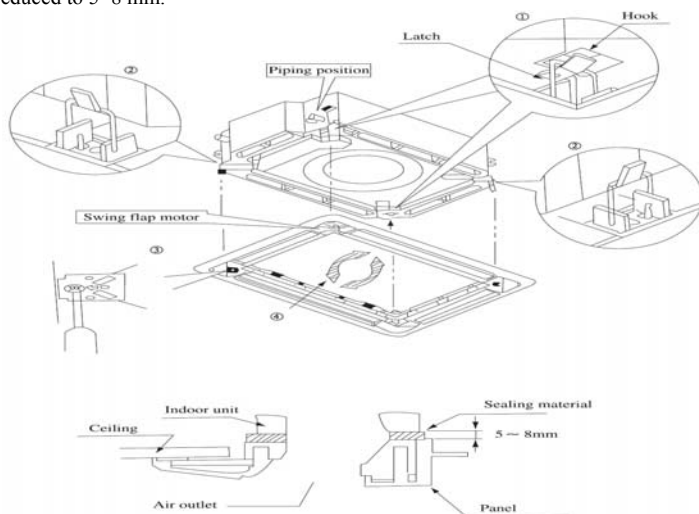

Fig. 22
- Set the panel to the indoor unit body by matching the position of the swing flap motor of the decoration panel to the piping position of the indoor unit as shown in Fig.22.
4. Adjust the panel by turning it to the arrowed direction in Fig.22, so that the ceiling opening is completely covered.